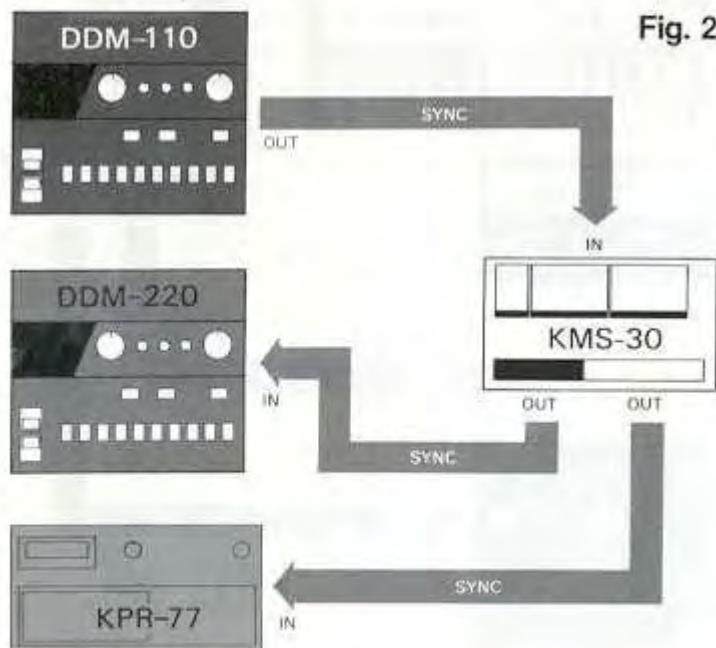

Fig. 2
*Example: (Fig. 2)*
## ● Procedure (Fig. 2)
Besides the DDM-110, which acts as the master, and two rhythm machines that operate on sync signals, you can also connect a MIDI equipped digital sequencer's MIDI IN jack to one of the KMS-30 MIDI OUT jacks as shown in Fig. 2.